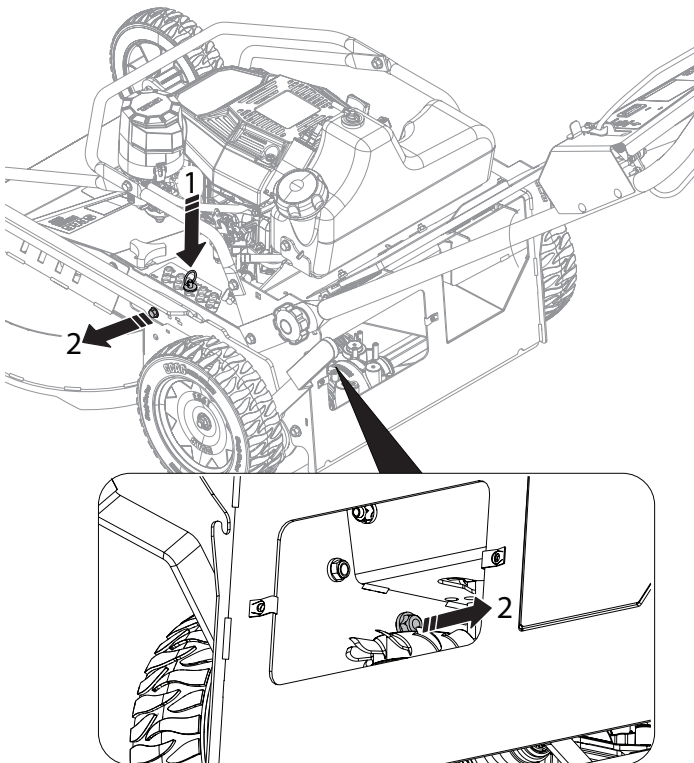

Figure 1-10. Remove Shipping Hardware
9. Remove the 3/8"-16 x 1-1/2" bolt, spacer and nut. See Figure 1-10.